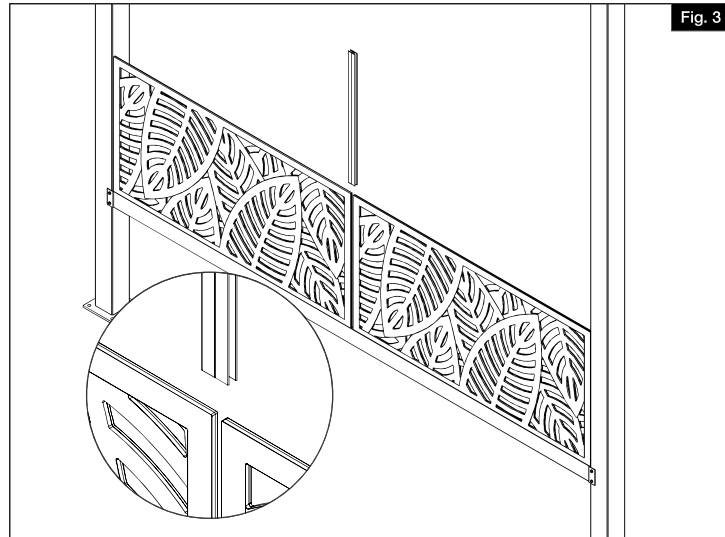

Fig. 3
Insert (2) Decorative screen panels into bottom rail. Insert one vertical H-channel in-between panels (Figs. 3 & 4).